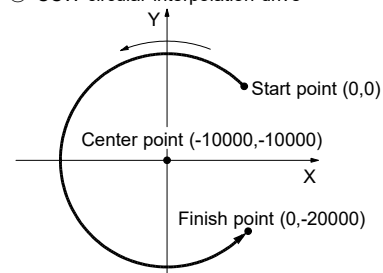

Fig.2 Example of CCW circular interpolation
[Setting procedure for the operation of Fig.2]
- 1 ~ 3 Same as Fig.2